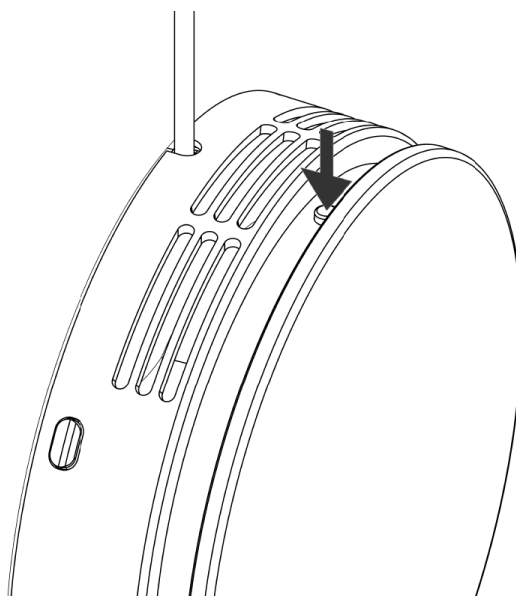

Figure 45 - Starting AM 50 (testing the installation)
2. Press the button on the top to start AM 50, see Figure 45 below.